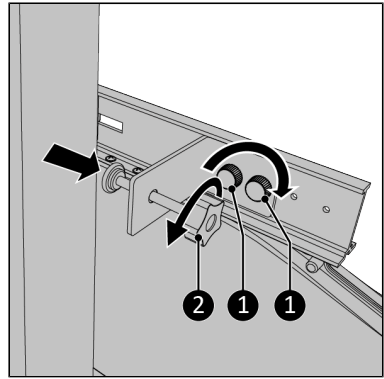

Figure 91.
12. Screw the clamping screw all the way back (Figure 91, pos. 2).
14. Screw the clamp bracket to the main rail using the two knob screws (Figure 91, pos. 1).